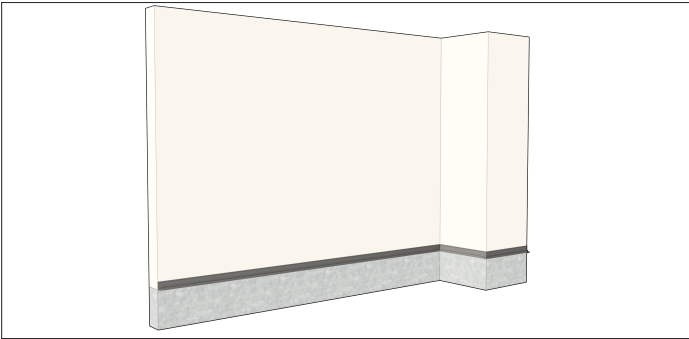

Figure 16.1
1. After completing the AWB and primary flashings, install the Perforated Starter J Trim on top of the AWB leveling it at the cladding start point. (Figure 16.1)